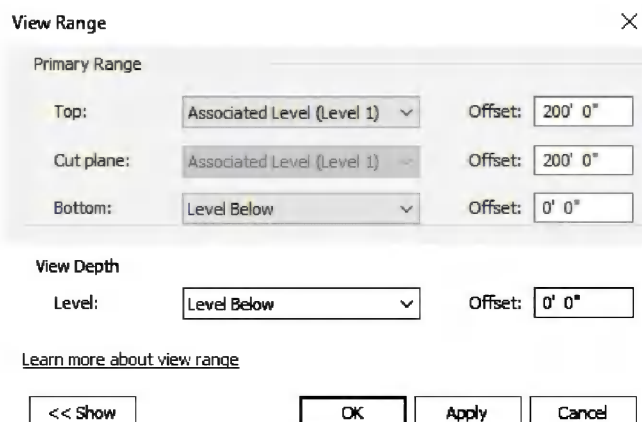

**Figure 13-1.1** Site plan view
- a. Adjust the category visibility so your view matches Figure 13-1.1. Also, set the *Detail Level* to *Fine*. Hide elevation and section tags.
Here you will basically see what appears to be a roof plan view of your project (Figure 13-1.1). This view has the visibility set such that you see the project from above and the various “site” categories turned on so they are automatically visible once they are created. Next you will take a quick look at the *View Range* for this view so you understand how things are set up.